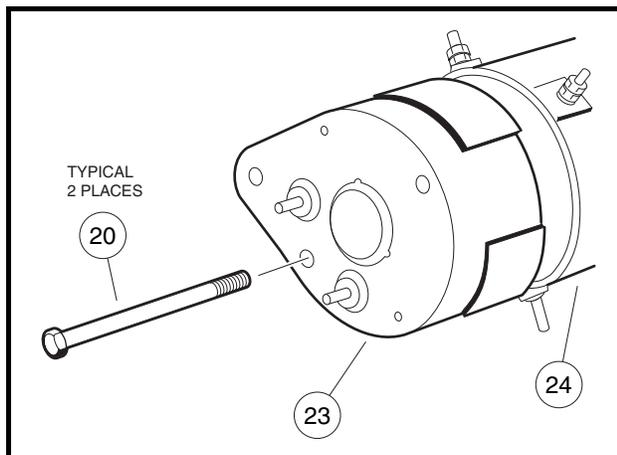

Figure 12-2 Commutator End Cover
1. Remove the two bolts (20) and pull commutator end cover (23) free of starter/generator housing (24) (**Figure 12-2, Page 12-2**). See following NOTE.
3. Install the commutator end cover (23) onto the armature shaft. Align the locating pin with the pin hole in the cover. Install two M6 x 180 mm bolts (20) and tighten to 100 in-lb (11.3 N-m) **(Figure 12-2, Page 12-2)**.
2. Remove the two bolts (20), and pull commutator end cover (23) free of the starter/generator housing (24) **(Figure 12-2, Page 12-2)**.
9. Install the commutator end cover (23) onto the armature shaft. Align the locating pin with the pin hole in the cover. Install the two M6 x 180 mm bolts (20), and tighten to 100 in-lb (11.3 N·m) (**Figure 12-2, Page 12-2**).